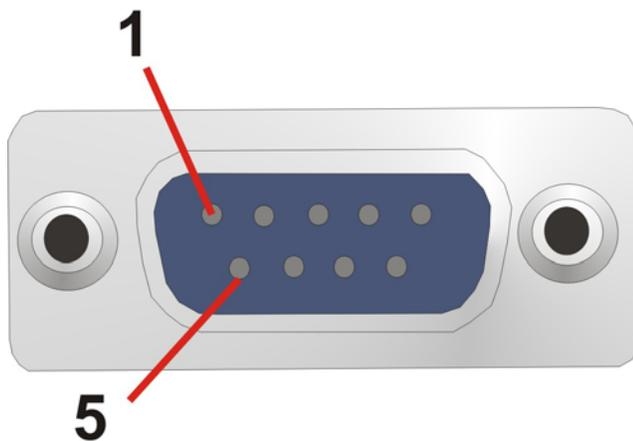

Figure 3-24: COM1 Serial Port Connector
- CN Pinouts:** See Table 3-24 and Figure 3-24